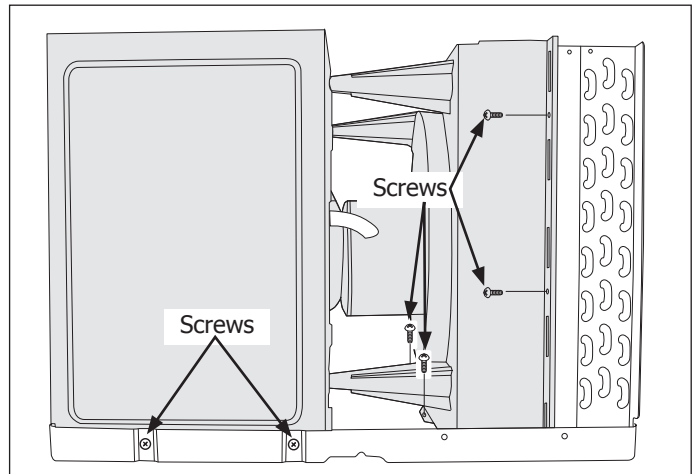

Figure 4-20.
7. Extract the two screws from each side securing the fan assembly to the condenser assembly. (See Figure 4-20)
8. Extract the two screws from the lower right side securing the right bulkhead partition to the unit base. (See Figure 4-20)
11. Extract the two screws under the condenser fan motor securing the assembly to the unit base. (See Figure 4-20)